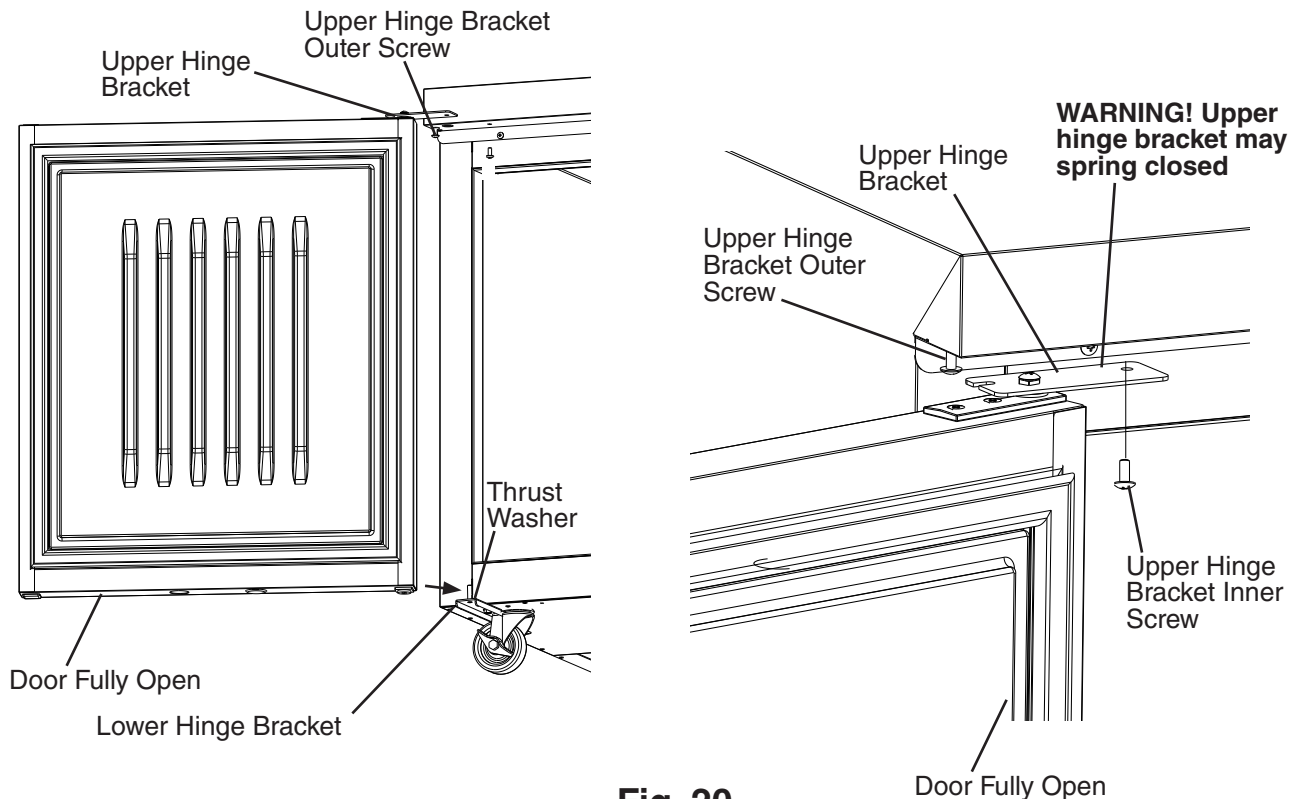

Fig. 20
- 14) Be sure the lower hinge bracket thrust washer is in place, then place the door on the lower hinge bracket in the fully open position. Slide the door upper hinge bracket outer slot onto the upper hinge bracket outer screw. See Fig. 20